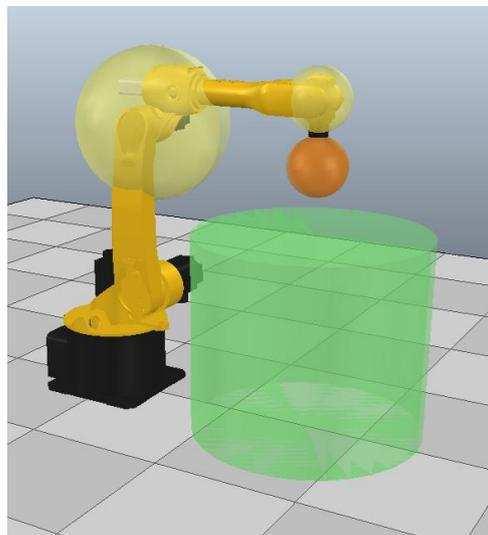

Figure 6-62 Contents of working condition in cylinder working zone
Step2. After obtaining the center of bottom circle, the radius of bottom circle and the height of the cylinder, you need to click <Applicate> button to write the calculated Safety Zone of the cylinder into the database, and then the setting of the Safety Zone of the cylinder will be completed. The contents of working condition after setting is shown in Figure 6-62.